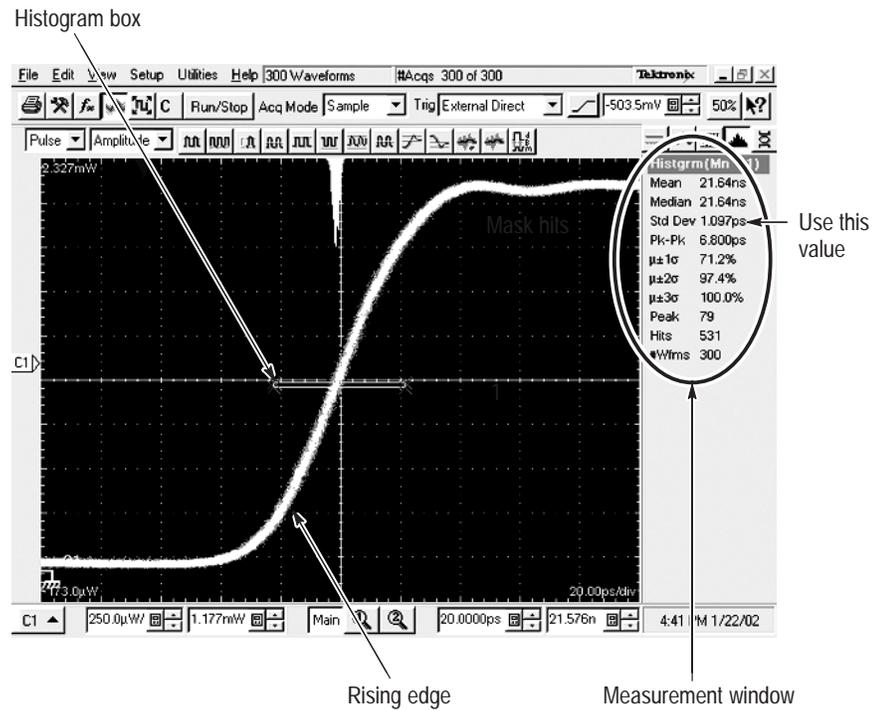

Figure 15: RMS Jitter measurement
12. Press the Clear Data button and then the Run/Stop button on the oscilloscope to display a waveform as shown in Figure 15 on page 40.
***NOTE.** You may need to adjust the location of the rising edge of the waveform, and the size of the histogram box to have your display resemble Figure 15.*
Take Measurements. Refer to Figure 15 as you align the waveform.
1. Press the Clear Data button, and then the Run/Stop button on the oscilloscope to display a waveform as shown in Figure 15.
5. Press the Clear Data button and then the Run/Stop button on the oscilloscope to take a measurement. The measured jitter value for the 2.488 Gb/s rate is displayed in the window as shown in Figure 15.